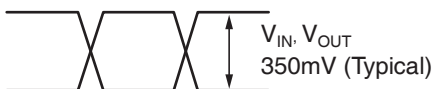

Figure 1c. Single-Ended Swing
8. See Figures 1c and 1d for V_{DIFF} definition.
12. See Figure 1c.